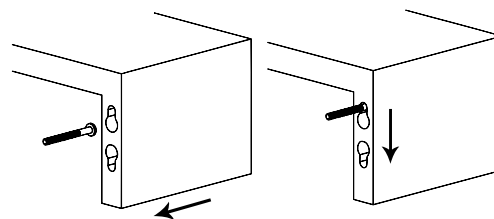

Figure 3
STEP 3: Attach each ledge by placing the keyholes over the screws and applying a light downward force, as shown in **Figure 3**.